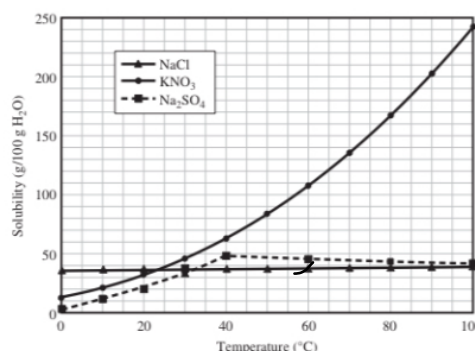

FIGURE 6.5-1 Solubilities of inorganic solutes.
1. Solid crystals of sodium chloride are slowly added to 1000 kg of water at 60°C. After each small addition, the mixture is stirred until the salt dissolves, and then more salt is added. How much salt can be dissolved if the temperature is maintained at 60°C? What will happen if more than this quantity of salt is added? (Refer to Figure 6.5-1.)
5. Why is there a slope discontinuity at 40°C in the Na_2SO_4 solubility curve of Figure 6.5-1?